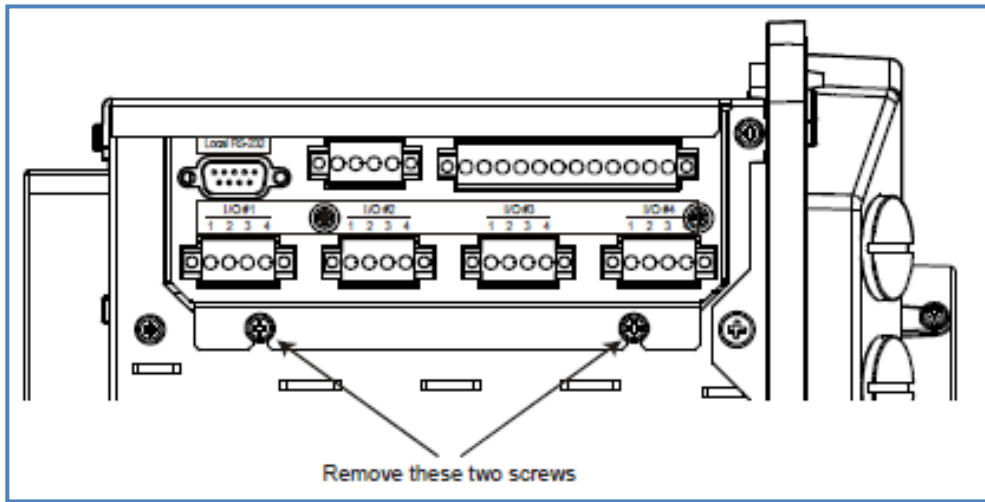

Figure E-2: Removing the I/O Assembly
5. Remove the two screws holding in place the I/O assembly, and remove the I/O assembly from the electronic card cage. See Figure E-2.
7. Put back the I/O assembly in the electronic card cage. Reinstall the two screws removed during step 5. See Figure E-2.